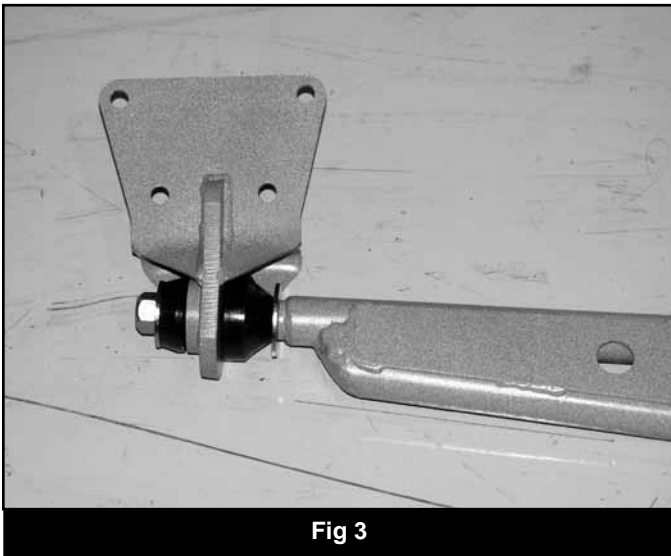

Fig 3
9. Attach the BDS radius arm mounting brackets to the BDS radius arms using the provided bushings and hardware. Tighten radius arm nuts until bushings begin to swell. [Fig. 3]